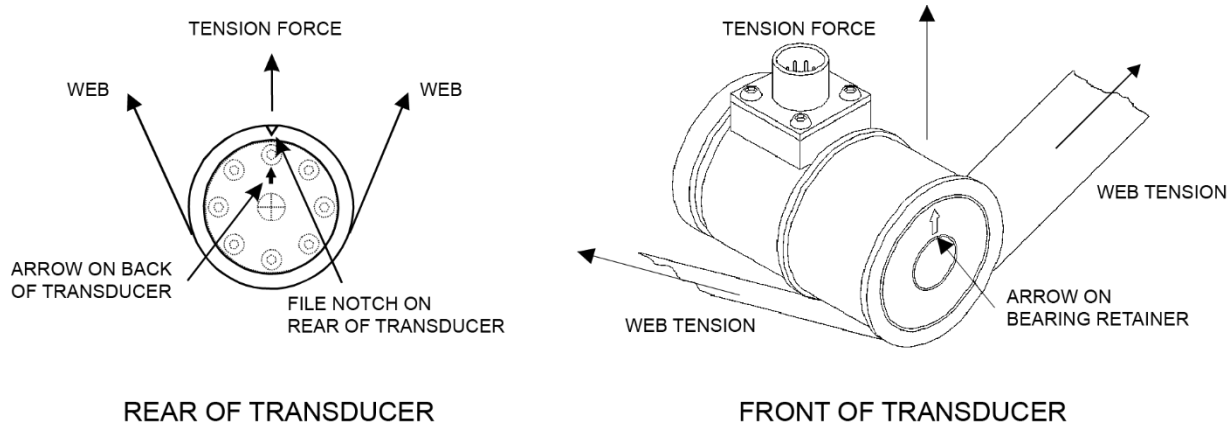

Figure 5 - TENSION FORCE DIRECTION
1. ORIENT THE TRANSDUCER (see Figure 5)